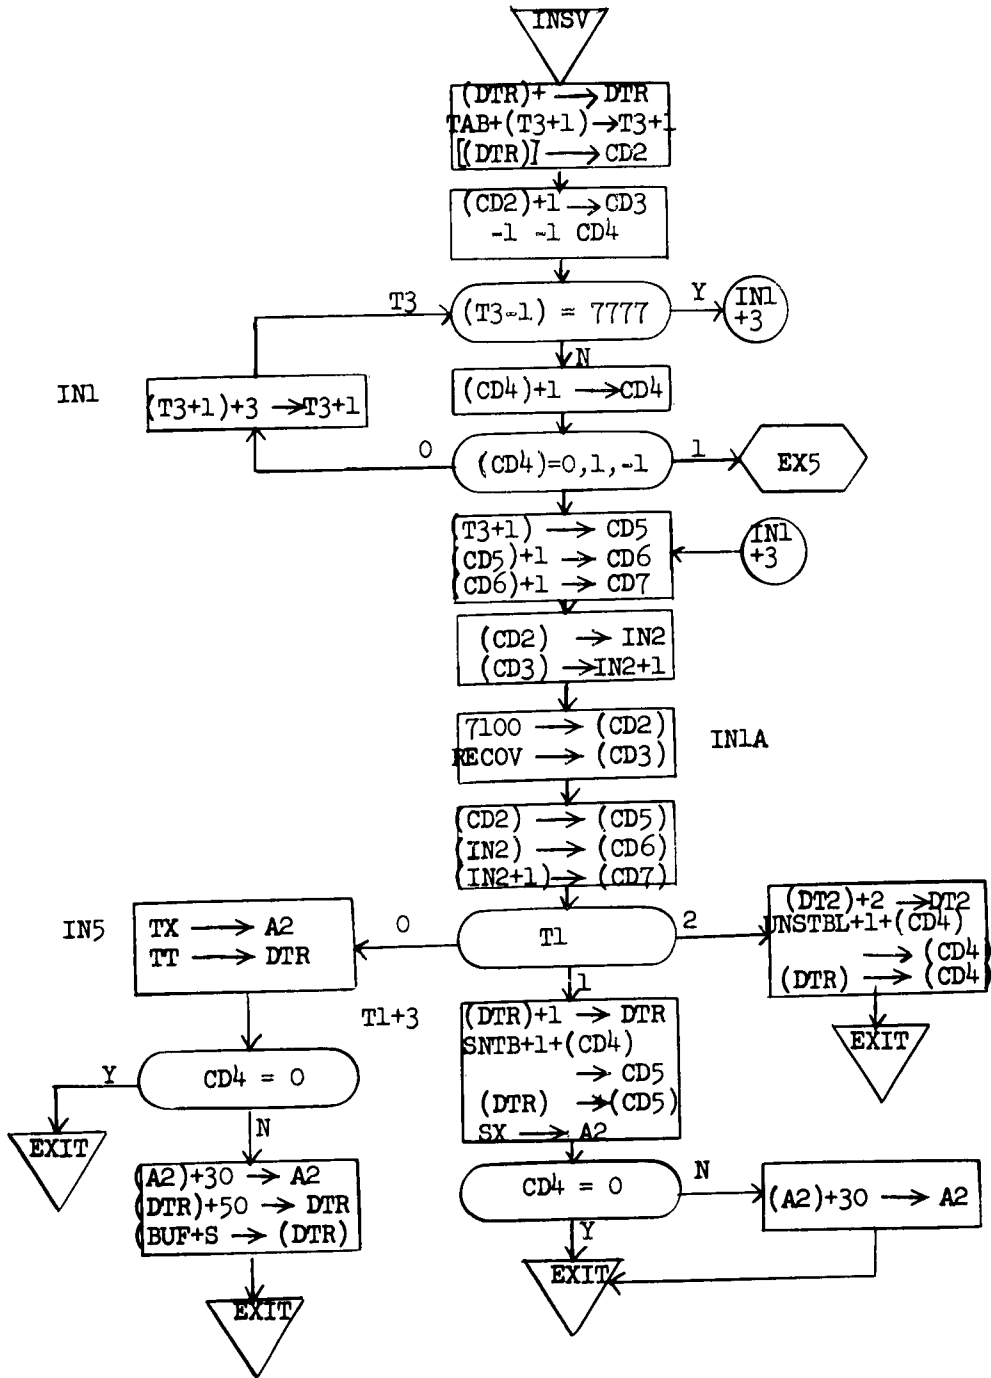

Figure 7.23 INSV
7.3.6 INSV Subroutine (Figure 7.23)